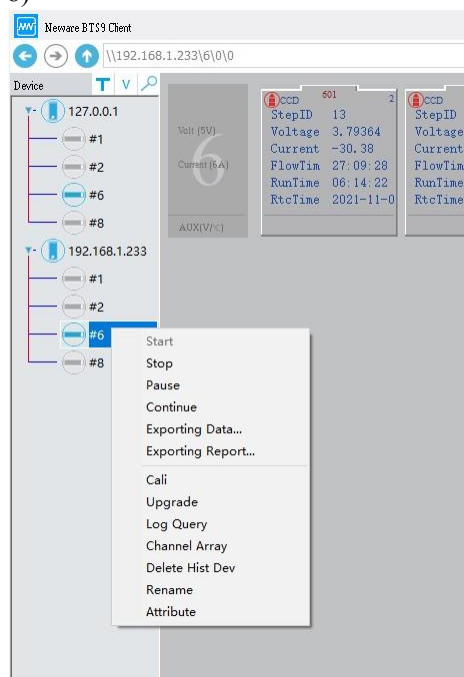

Figure 4-8 Device list display
2. Device list display area: It is located on the left of the lower part of the toolbar. After the server is successfully connected, the searched devices are automatically displayed in this area to display all devices under the current server and their status (online and offline). The first level is the server's IP address (127.0.0.1 and 192.168.1.233), and the second level is the device number (8). Right-click the device number to calibrate, upgrade, export reports, query logs, and other operations, as shown in the following figure: (Figure 4-8)